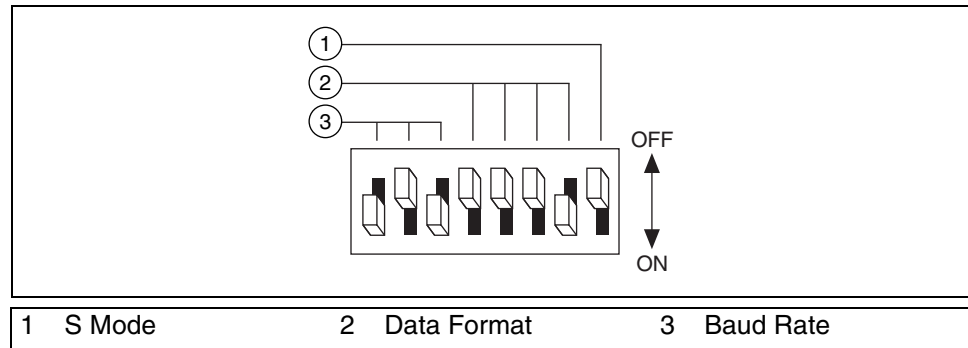

Figure 9-20. Serial Configuration Settings for the NI Instrument Simulator
- To communicate through serial, set the Instrument Simulator switches as shown in Figure 9-20.